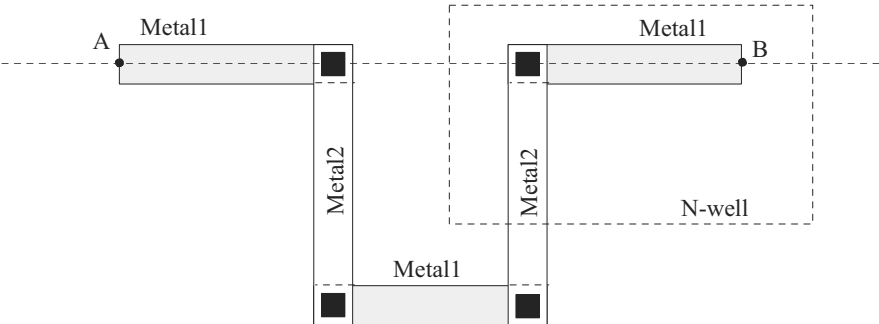

Figure 3.28 Layout for Problem 3.8.
- 3.8** For the layout seen in Fig. 3.28, sketch the cross-sectional view (along the dotted line) and estimate the resistance between points A and B. Remember that a via is sized 1.5 by 1.5.